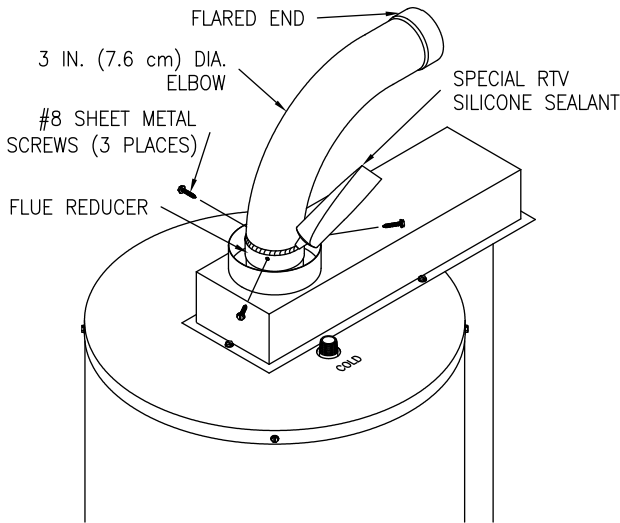

Figure 5
5. Insert the straight end of the three (3) inch (7.6 cm) diameter elbow into the flue reducer until firmly seated and oriented in the correct direction. With a 1/8 inch (3.0 mm) diameter drill bit (not supplied), drill three (3) holes, 120° apart, through the flue reducer into the three (3) inch (7.6 cm) diameter elbow. Fasten with three (3) #8 sheet metal screws (supplied). Using the supplied special RTV silicone sealant, apply a sufficient amount to seal the joint (See Figure 5).